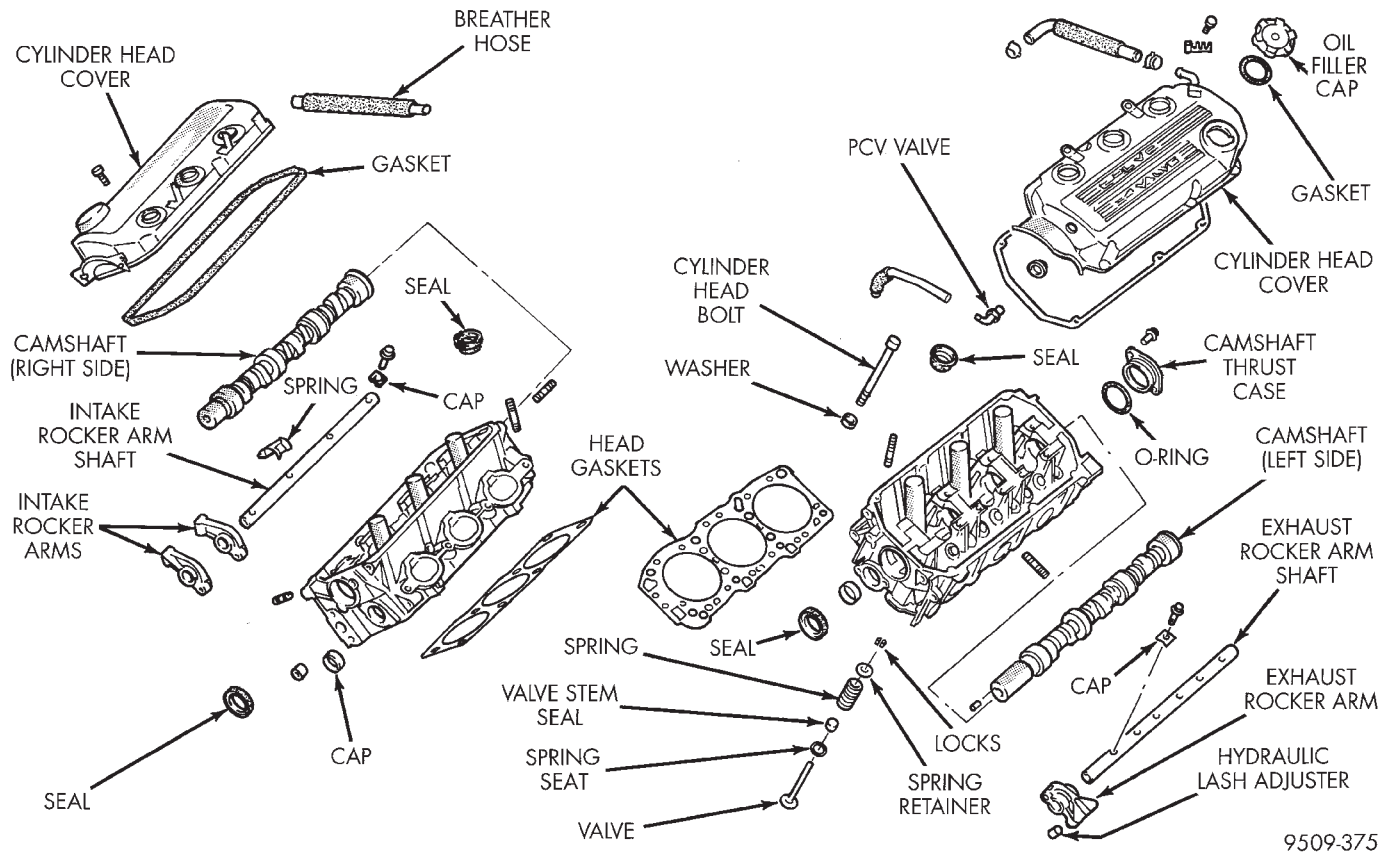

Fig. 32 Cylinder Head Components
- (1) Remove air intake plenum. Refer to Group 11, Exhaust and Intake Manifolds for procedure.
- (2) Cover lower intake manifold with a suitable cover during service.
- (3) Disconnect and relocate spark plug wires.
- (4) Remove cylinder head cover screws and remove cover (Fig. 32).